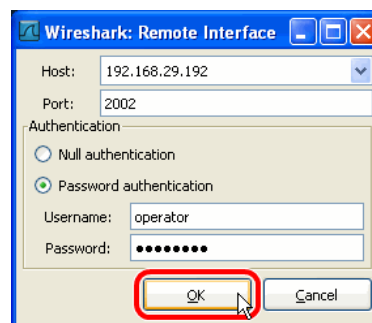

Figure 320: Wireshark Remote Interface Dialog.
4. Enter the correct settings for **Host** and **Port** (default 2002) and, if authentication is enabled, enter **Username** and **Password** in the corresponding fields as shown in Figure 320.